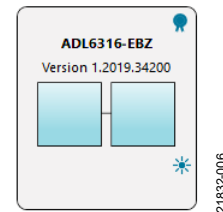

Figure 4. ADL6316-EBZ Board Icon
2. Double-click the **ADL6316-EBZ** board icon, as shown in Figure 4.